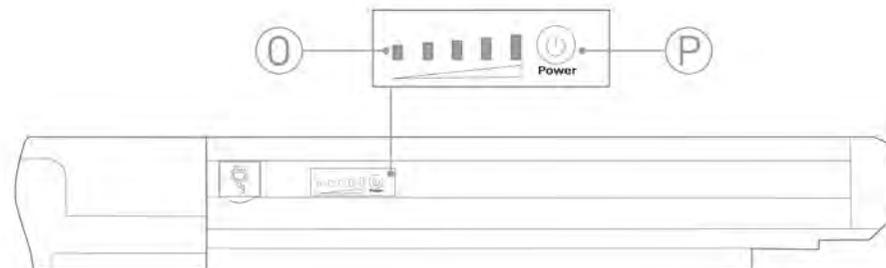

**FIG. 8**
1. Insert the battery release key in the slot in the left front part of the luggage rack (Ref. 1 in Figure 8) and turn it counter-clockwise until the release click occurs;
2. Remove the battery, acting on the appropriate handle at the rear of the same, taking care not to exert excessive force (Ref. 2 in Figure 8);
3. Remove the key (key 3 in figure 8).